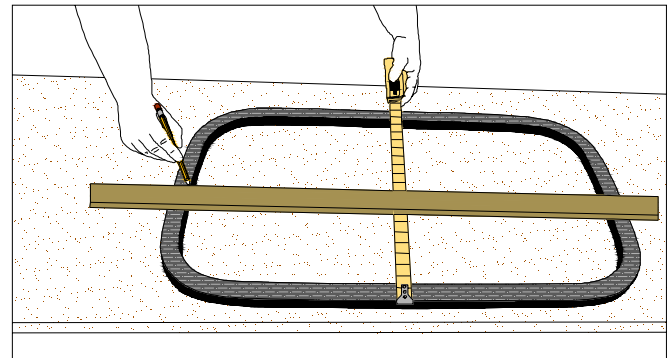

Figure 1A
- Measure the ring in both directions. (FIG. 1A)